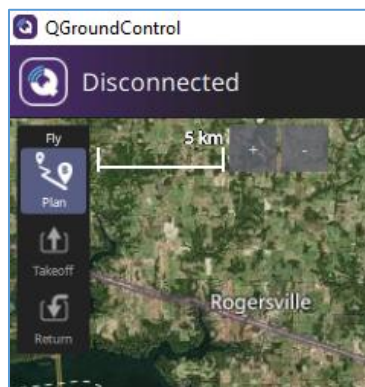

Figure 32: Q Ground Control Startup Options
2. Click the "Plan" button on the left side of the window to bring up your planning options (Figure 32).